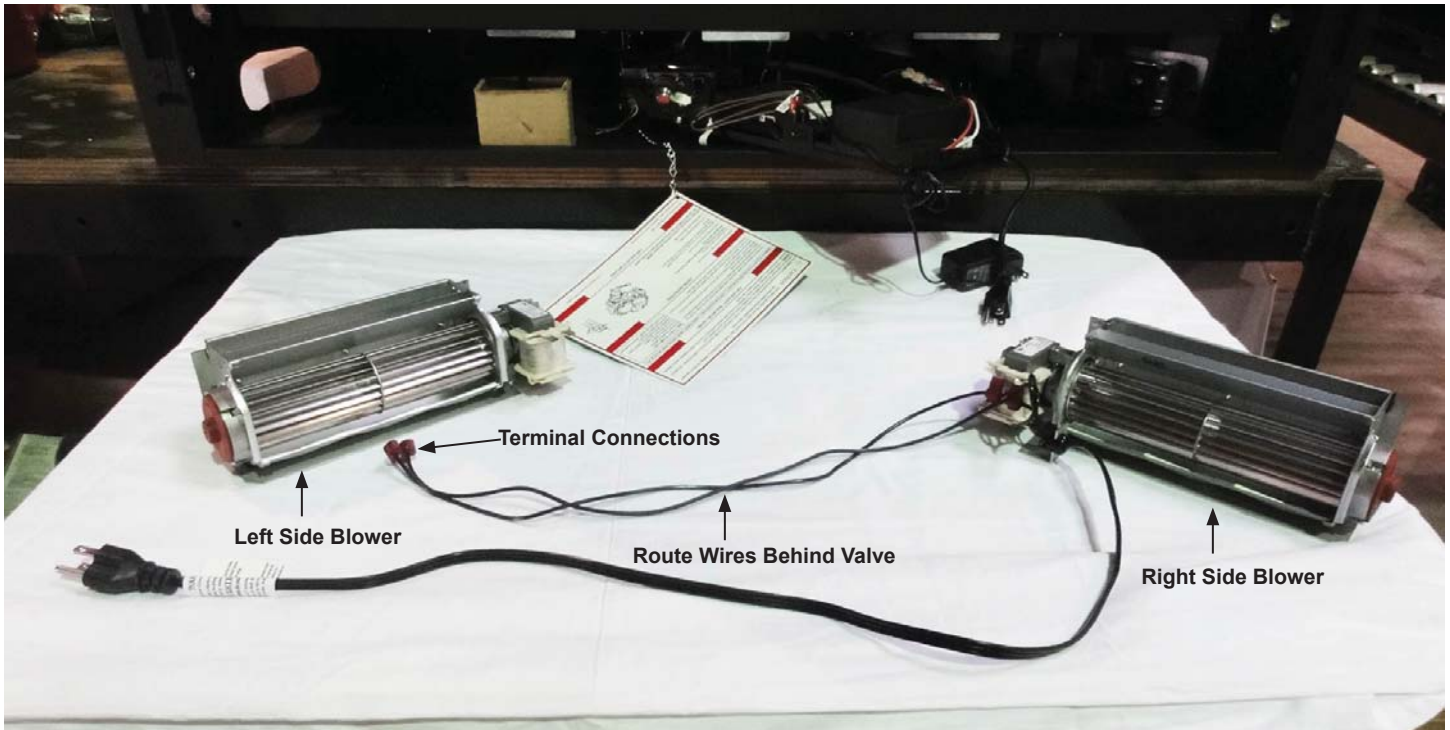

Figure 1
3. Locate left and right side blowers. Figure 1